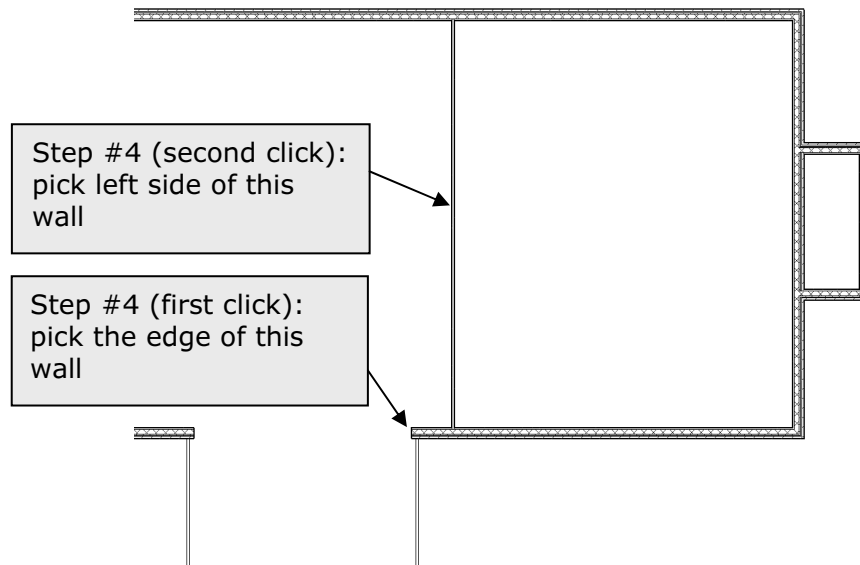
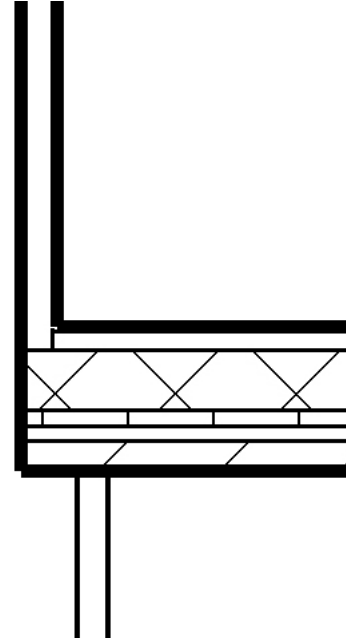

Figure 3-3.1 First interior wall
Figure 3-3.2 First interior wall
3. Draw a "vertical" wall approximately as shown in Figure 3-3.1. You will adjust its exact position in the step #4.
4. Select **Modify** → **Edit** → **Align** tool to align it with the edge of the exterior wall in the atrium (Figure 3-3.1). When you are done, the wall should look like Figure 3-3.2.